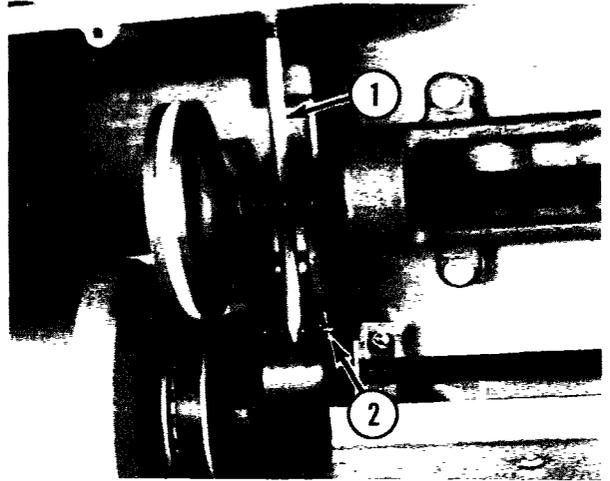

Fig. 2-40
## A. Switch rod removal (1, Fig. 2-40).
- (1) Lift the bowl cover and remove it from the hinge pin.
- (2) Remove the comb and knife assembly.
- (3) Remove the bowl.
- (4) Using a support so the electrical cord will not be damaged, lay the machine on its back.
- (5) Remove the bottom cover and leg assembly from the bottom of the housing.
- (6) Remove the cotter pin and clevis pin (2, Fig. 2-40). Remove the rod.
- (7) Reassemble in the reverse order of removal.
- (8) Test for correct interlock operation.